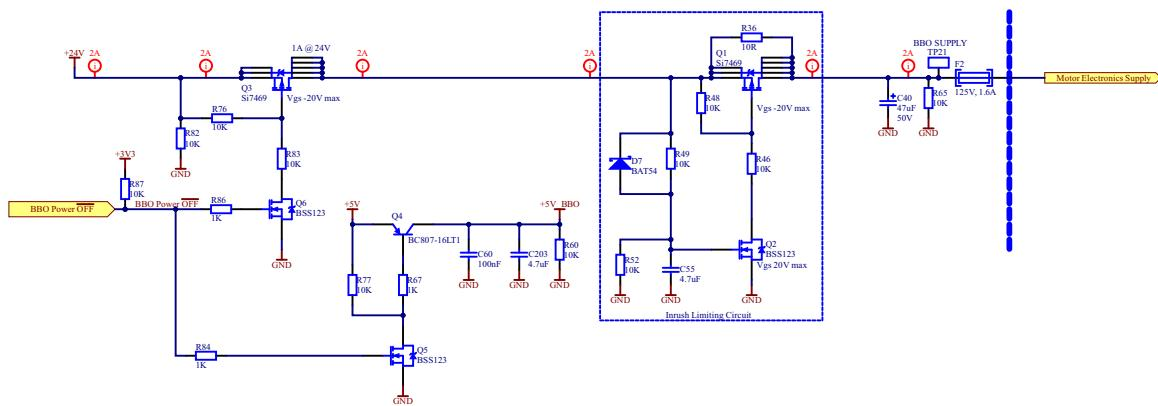

Figure 2.1-39. BBO 24V Rail (TP21)
- On the Bulk PCBA, check the Figure 2.1-39 "BBO 24V Rail (TP21)"